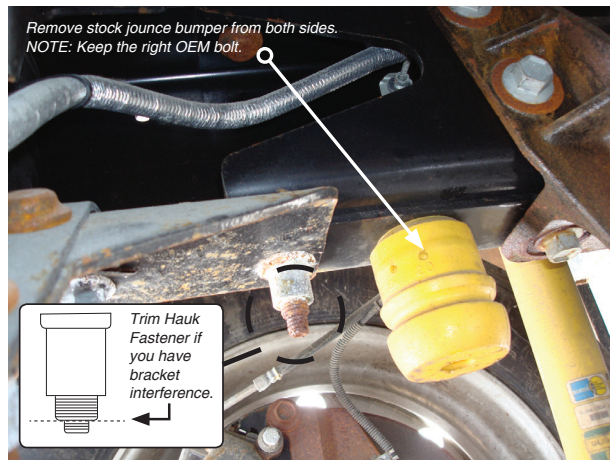
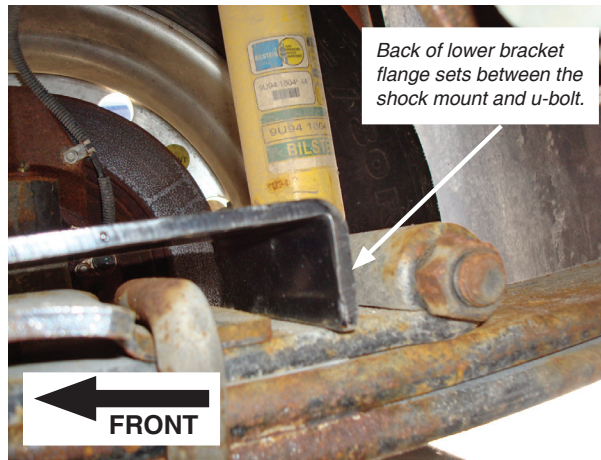

fig. 5
fig. 8
1. Before the assemblies can be installed, it will be necessary to remove the jounce bumpers from under the frame (Fig. 5). Note: do not discard the right OEM bolt; it will be used in the next step on the right side of the vehicle.
If there is no hole in the frame for the upper bracket, position the lower bracket so that the back leg on the bracket is in between the shock mount and u-bolt (Fig. 8). Align the upper bracket so the bellows is perpendicular between the upper and lower bracket. Note: make sure that the flange on the upper bracket is setting against the frame. Some late models may have longer Hawk fasteners. If the fastener hits on the upper bracket and keeps its form contacting the frame (Figs. 5 and 9) hack saw or grind the end of the fastener just enough so that the upper bracket contacts the frame. Using the center of the slot in the upper bracket as a guide, center punch and drill a 1/2" hole through the frame. Repeat for the other side.